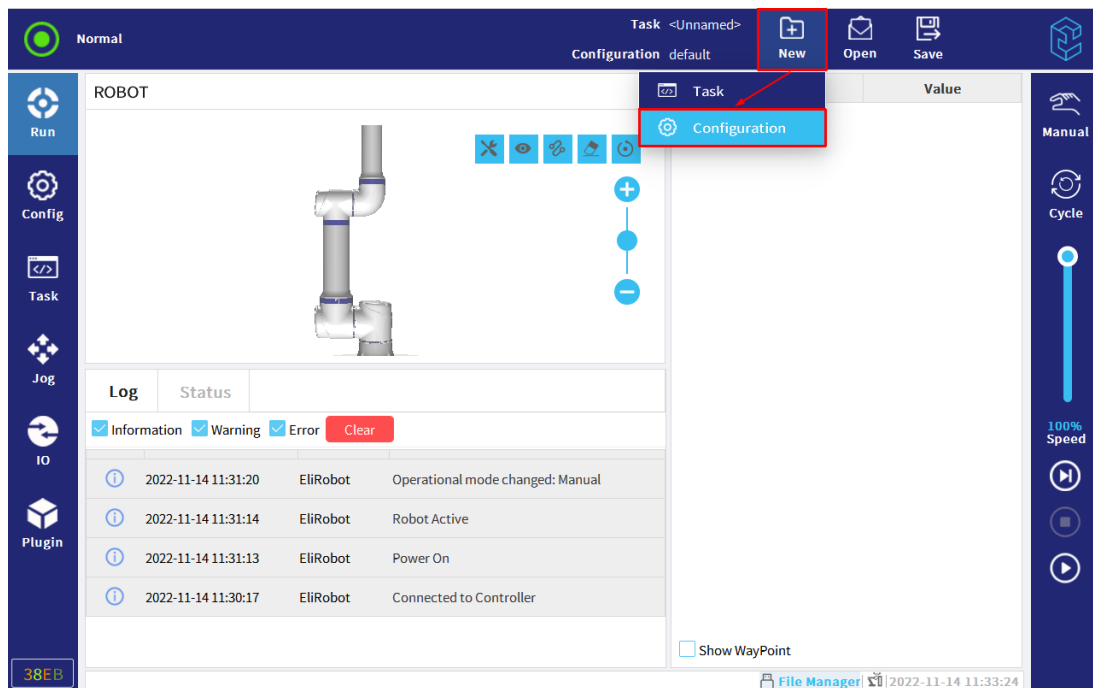

Figure 3-8 : New profile
1. In task and configuration manager, click "New" and then select "Configuration", as shown in **Figure 3-8**.